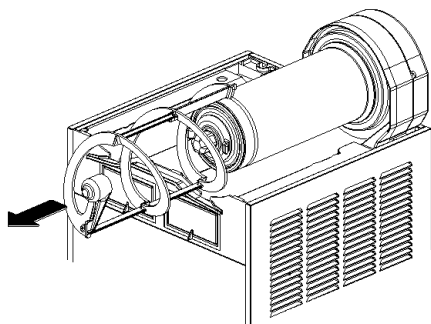

figure 7
- 3** Slide the outer spiral out (see figure 7) and then the Outside